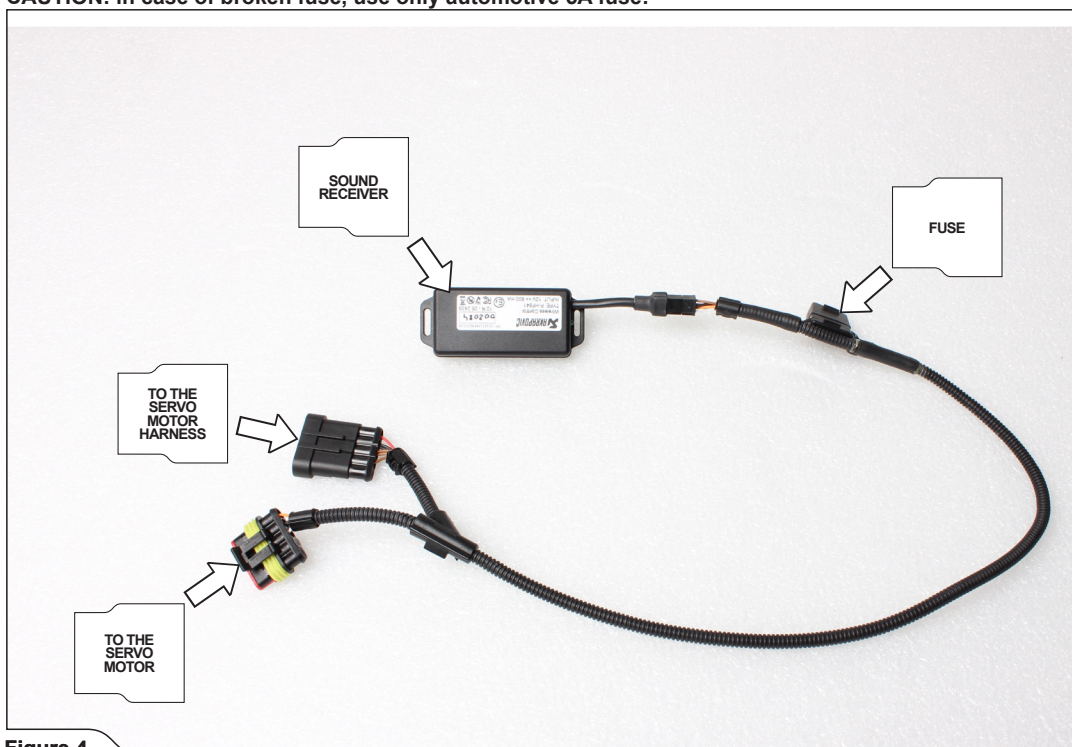

Figure 4
5. To remove the exhaust valve cable from the valve, first do the following (Figure 4, 5):